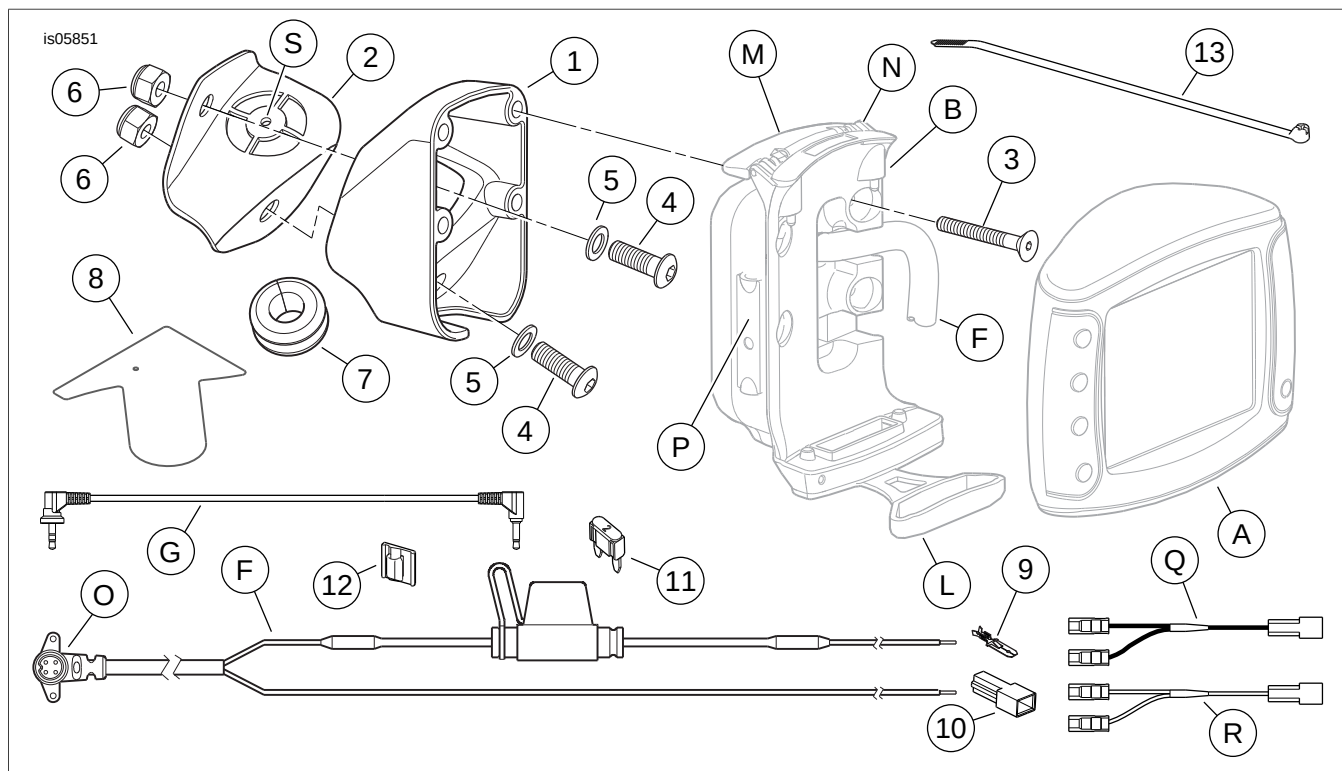

Figure 4. Service Parts, Zumo GPS Fairing Mounting Kit
See Figure 4 and Table 1.
6. See Figure 4. Position the gasket (2) and GPS mount (1) onto the face of the inner fairing, aligning the upper hole in the mount with the hole drilled in the previous step.
7. Temporarily install one of the screws (4) through the upper hole to help align the GPS mount.
- Remove the tape tying the black (1) and orange/white (2) wires of circuit [29B] to the vehicle main harness.
- See Figure 4. Obtain the male tab terminals (9) and housings (10) from the kit. Follow the service manual instructions to crimp the terminals onto the free ends of the Road Tech Zumo power harness (F). Insert a terminal and wire into each tab housing.
- See Figure 4. Obtain the multiple accessory Y-harnesses (items Q and R, purchased separately).